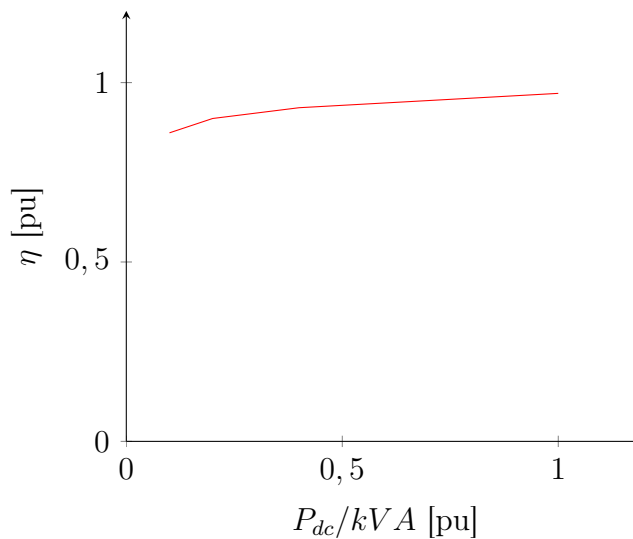

Figure 3: Inverter efficiency curve
- **EffCurve**: Inverter efficiency curve. This curve characterizes the variation of the inverter efficiency as a function of the power from PV array, P_{dc} , in per unit of inverter's kVA rating, as can be seen in the Figure 3. For each DC bus voltage, there is an efficiency curve of the inverter, however, the present version of the model only defines one curve that generally corresponds to the rated voltage of the DC bus. To define this curve in OpenDSS, the user must use the XYCurve object, as shown below.